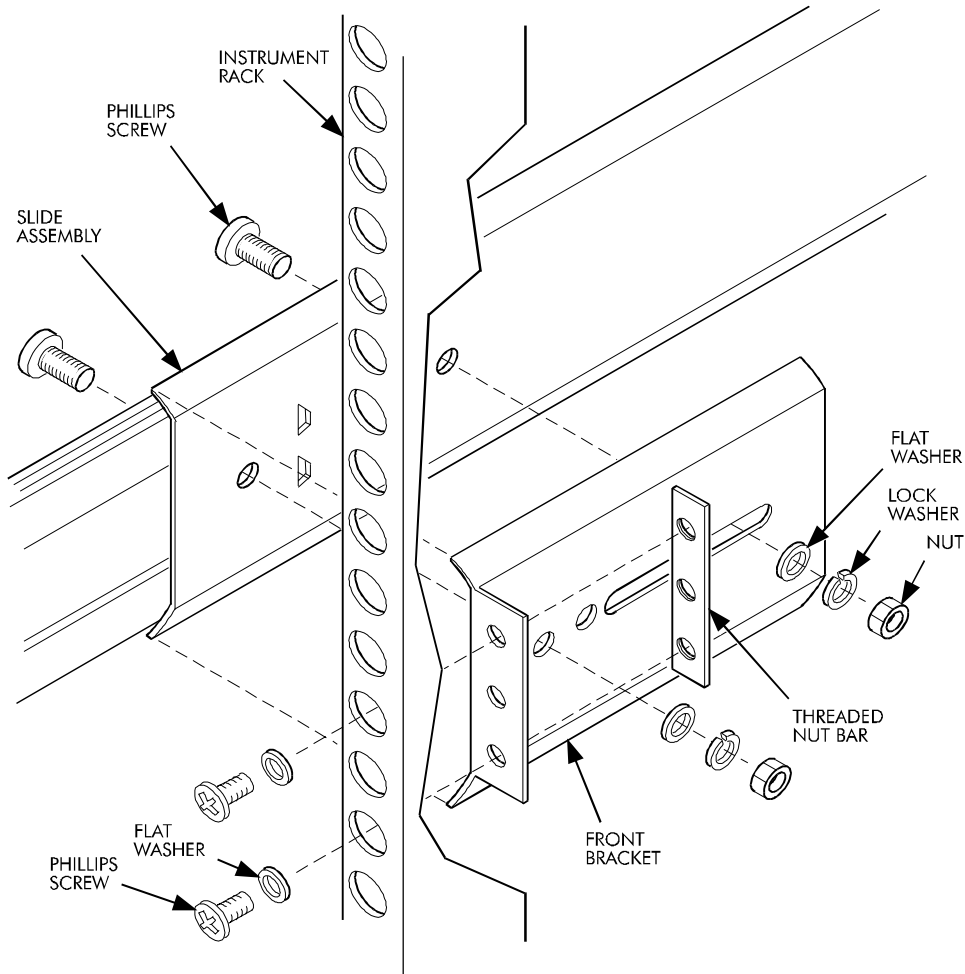

Figure 13. Exploded View of Mounting Components
Use the following procedure to install a Q2.15 in an instrument rack. Before starting the installation, review the information in **Figure 13.**, which shows an exploded view of the slide assembly and front mounting bracket relative to the instrument rack.
4. Attach the **front** bracket to the instrument rack by inserting two 10-32 screws through the front of the instrument rack, through the front bracket, and screwing into a threaded bar nut (see **Figure 13**. on page 30). Tighten the screws finger tight to allow for adjustment.
5. Attach the **rear** bracket to the instrument rack by inserting two 10-32 screws through the rear of the instrument rack, through the rear bracket, and screwing into a threaded bar nut. (The assembly is similar to that shown in **Figure 13**. on page 30). Tighten the screws finger tight to allow for adjustment.
- 11.** Attach the **front** bracket to the instrument rack by inserting two 10-32 screws through the front of the instrument rack, through the front bracket, and screwing into a threaded bar nut. (The assembly is similar to that shown in **Figure 13.** on page **30**). Tighten the screws finger tight to allow for adjustment.
- 12.** Attach the **rear** bracket to the instrument rack by inserting two 10-32 screws through the rear of the instrument rack, through the rear bracket, and screwing into a threaded bar nut. (The assembly is similar to that shown in **Figure 13.** on page **30**). Tighten the screws finger tight to allow for adjustment.